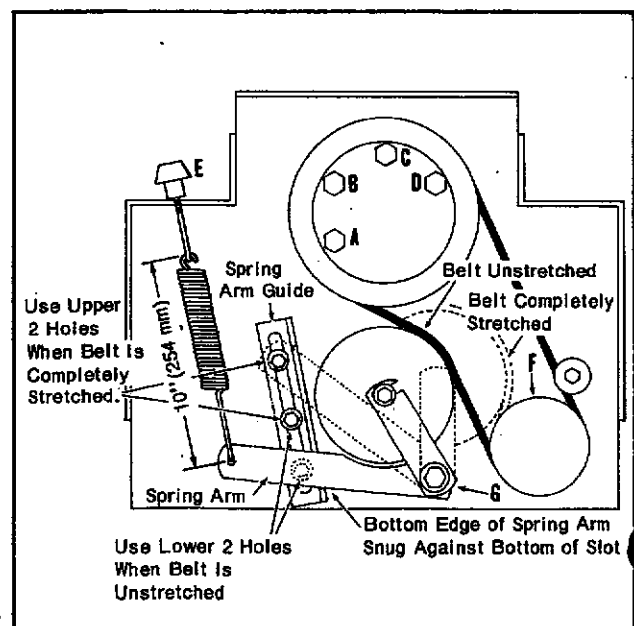

Figure 17
Idler pulley tension may be adjusted to compensate for belt wear. The belt stretches during operation, becoming looser over the pulleys, eventually causing slippage. A slight increase in tension can be made by turning the handle (E, Fig. 17) in a clockwise direction, or decrease by turning counterclockwise. Adjust the spring arm guide until the bottom edge of the spring arm rests snugly against the bottom of the slot.
The drive belt may be replaced in the following manner (See Figure 17 for reference letters used in these instructions):
5. Adjust the tension spring if necessary by turning the handle at E until the spring is stretched out to 10 inches (254 mm) as shown in Figure 17.
Grease Fittings (3) - Lubricate with chassis grease every 40 hours. The fittings are located at Ref. F and G, Figure 17. There are 2 grease fittings at "F", one on each flange (Ref. No. 9, Illustration 18).